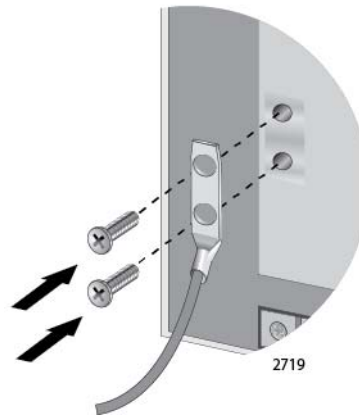

Figure 58. Installing the Grounding Lug and Wire
4. Install the grounding lug on the rear panel of the chassis, as shown in Figure 58.